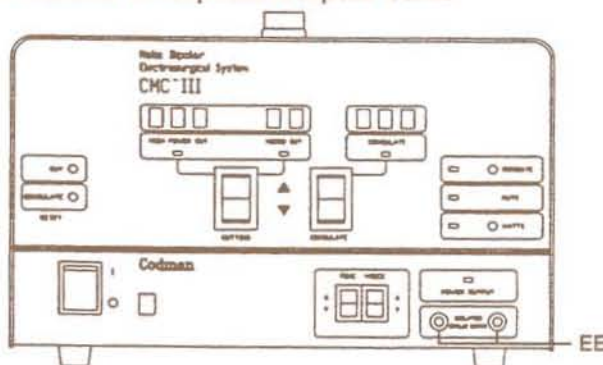

Figure 6. Front Panel Connections (Item EE)
5.6 CONNECTIONS (Figures 6 and 7)